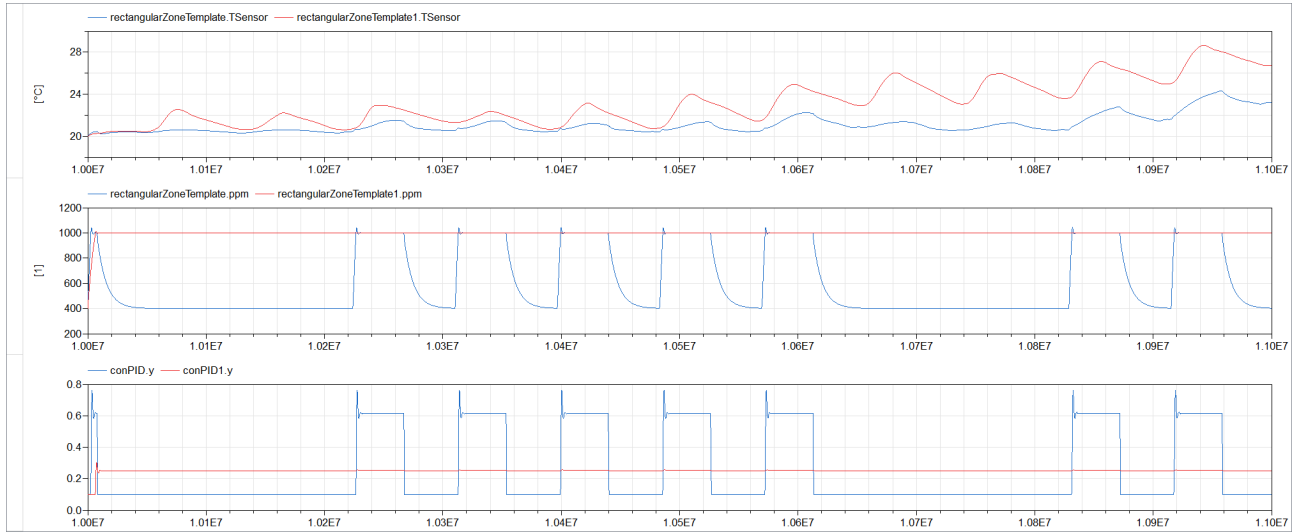

Figure 6: Zone temperature, CO2 concentrations and PI control signals.
**Reference result** The zone temperature, CO2 concentrations and PI control signals are plotted in Figure 6. Note the small overshoot of the PI controller outputs and the exponential decay towards the outdoor CO2 concentration when there are no occupants.